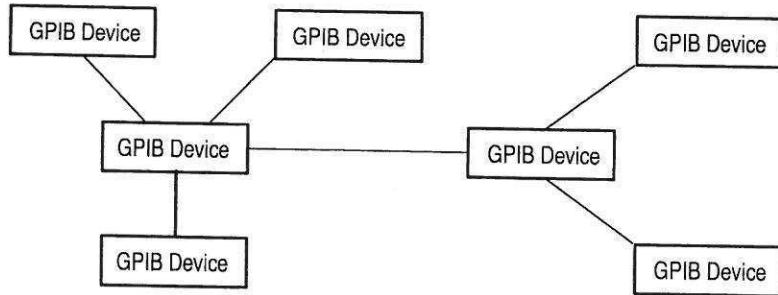

Figure 1: Typical GPIB Network Configuration
- Configure the devices on the system as shown in Figure 1. Do not use loop or parallel configurations.